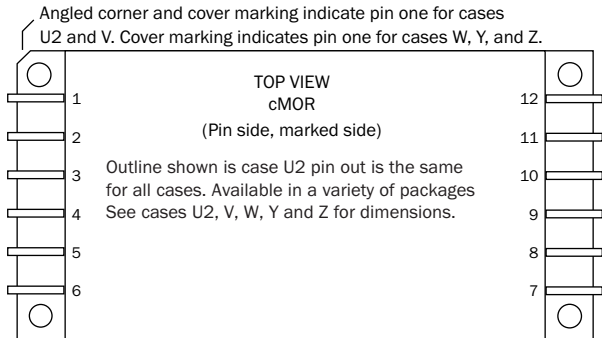

FIGURE 6: PIN OUT TOP VIEW
2. Case Options: For the standard case, U2, leave the case option blank. For other case options, insert the letter that corresponds to the desired case. See Figure 6 through Figure 11 for case designators and dimensions.